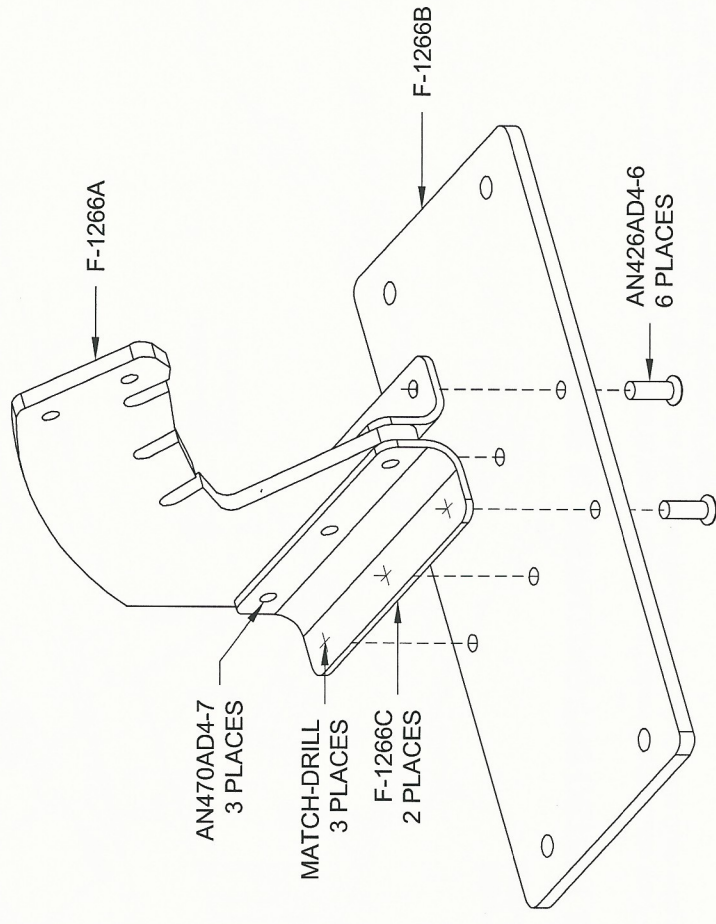

FIGURE 6: DETENT BRACKET ASSEMBLY
Step 7: Attach the F-1266C Flap Detent Bracket Angles to the F-1266A Flap Detent Bracket using the rivets called out in Figure 6.
Step 8: Cleco the F-1266C Flap Detent Angle that has the holes in its horizontal flange to the F-1266B Flap Detent Bracket Plate as shown in Figure 6.
Step 10: Machine countersink the bottom of the F-1266B Flap Detent Bracket Plate for the rivets shown in Figure 6.
Step 11: Attach the F-1266C Flap Detent Bracket Angles to the F-1266B Flap Detent Bracket Plate using the rivets called out in Figure 6.